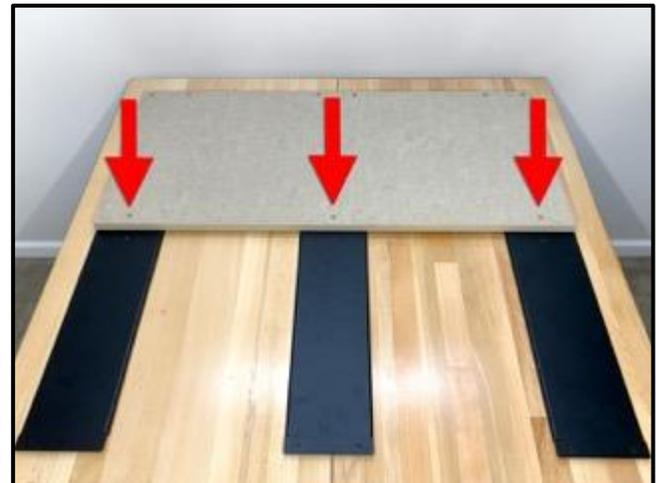

Figure 2-5
2. Place the MDF baseplate across the back half of the three cross straps and line up the screw holes, six across the back and three across the middle as shown in *Figure 2-5*.